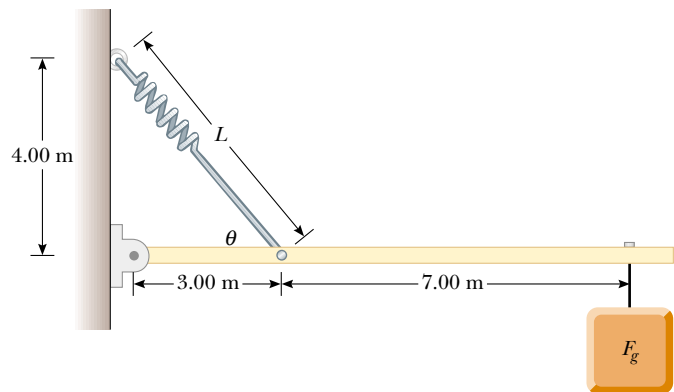

Figure P12.38
- 38.** A lightweight, rigid beam 10.0 m long is supported by a cable attached to a spring of force constant $k = 8.25 \text{ kN/m}$ as shown in Figure P12.38. When no load is hung on the beam ($F_g = 0$), the length L is equal to 5.00 m . (a) Find the angle θ in this situation. (b) Now a load of $F_g = 250 \text{ N}$ is hung on the end of the beam. Temporarily ignore the extension of the spring and the change in the angle θ . Calculate the tension in the cable with this approximation. (c) Use the answer to part (b) to calculate the spring elongation and a new value for the angle θ . (d) With the value of θ from part (c), find a second approximation for the tension in the cable. (e) Use the answer to part (d) to calculate more precise values for the spring elongation and